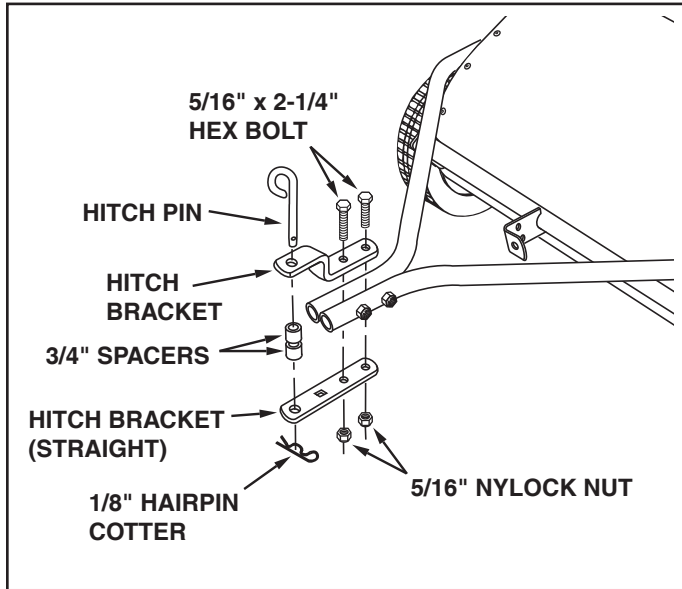

FIGURE 4
- FOR TRACTOR HITCHES HIGHER THAN 10". Place the bent hitch bracket on top of the hitch tubes and the straight hitch bracket underneath the hitch tubes. Insert two 5/16" x 2-1/4" hex bolts through the brackets, with the rear hex bolt between the cross bolts in the hitch tubes. Secure the hex bolts with two 5/16" nylock nuts. See figure 4. **Do not tighten yet.**
- Assemble hitch pin, the two large spacers and the hairpin cotter to the hitch brackets. See figure 4.